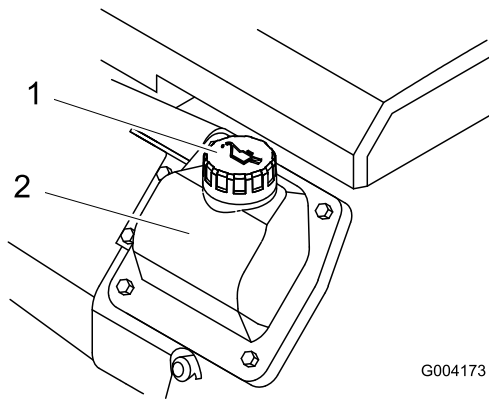

Figure 41
8. If the oil level is low, clean around the oil-fill cap and remove the cap (Figure 41).
6. Remove the fill cap (Figure 41) and slowly pour approximately 80% of the specified amount of oil in through the valve cover.
9. Remove the fill cap (Figure 41) and slowly pour approximately 80% of the specified amount of oil in through the valve cover.